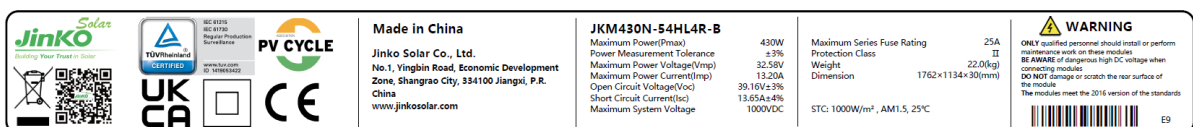

Figure 1. Nameplate example.
1. Nameplate (Figure 1): each Module has a nameplate, which indicates the Module type, the main electrical and safety specification parameters, etc.